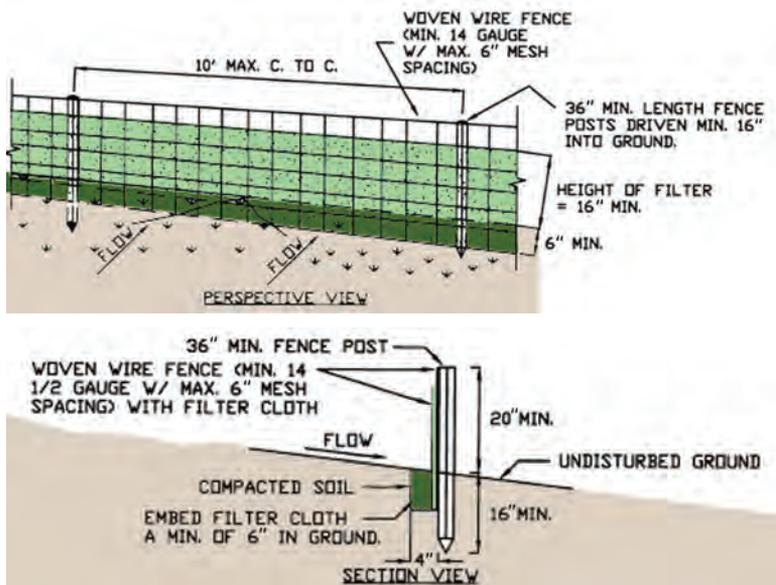

Figure 2.3. Silt fence installation with wire mesh support.
- Reinforce fabric with heavy wire support fencing to prevent collapse where necessary (Figure 2.3).